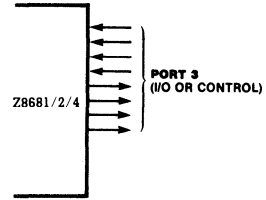

Figure 12. Port 3
**Port 3** lines can be configured as I/O or control lines (Figure 12). In either case, the direction of the eight lines is fixed as four input (P30-P33) and four output (P34-P37). For serial I/O, lines P30 and P37 are programmed as serial in and serial out, respectively.